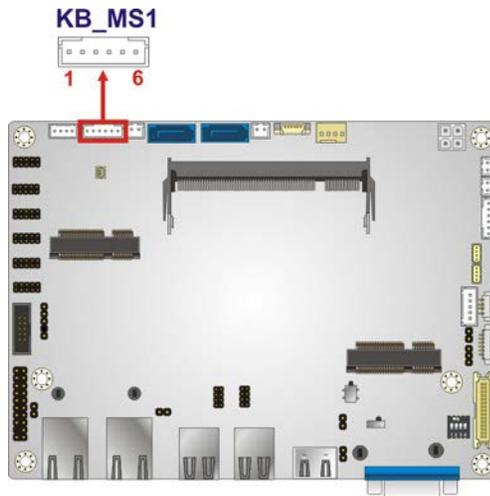

Figure 3-13: Keyboard and Mouse Location
- CN Location:** See **Figure 3-13**